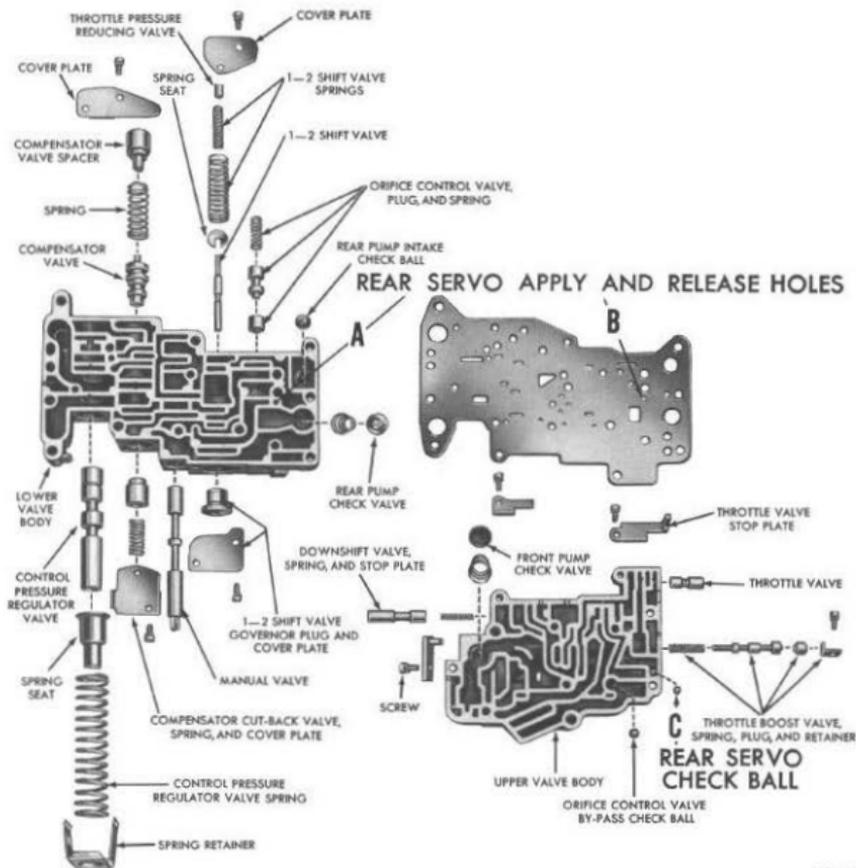

FIG. 6—Control Valve Body—Exploded View
1. Remove the manual valve. Refer to Fig. 6.
7. Remove the 1-2 shift valve and spring and the orifice control valve spring, valve, and the orifice control valve plug. Refer to Fig. 6.
8. From the upper body, remove the downshift lever stop plate. Refer to Fig. 6.
10. Remove the throttle valve stop plate and throttle valve from the opposite end of the upper body. Refer to Fig. 6.
11. Remove the throttle boost valve retainer, plug, throttle boost valve, and spring. Refer to Fig. 6.
13. Lift the upper body and separator plate from the lower body. Remove the rear pump check valve and spring. Remove the rear pump intake check ball from the lower body. Refer to Fig. 6.
14. Remove the 1-2 shift valve from the lower body by compressing the 1-2 shift valve outer spring in the direction of the throttle reducing valve; then, remove the spring seat with needle nose pliers. With the spring seat removed, the 1-2 shift valve can be removed through the throttle reducing valve hole. Remove the 1-2 shift valve spring. Refer to Fig. 6.
16. Remove the front pump check valve and spring from the upper body. Remove the orifice control valve by-pass check ball. Refer to Fig. 6.